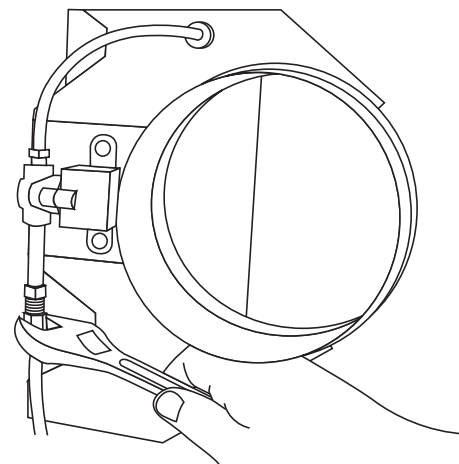

Figure 15
3. Make the tube connection to the humidifier using an adjustable wrench (not supplied) to tighten the nut. (fig 15)